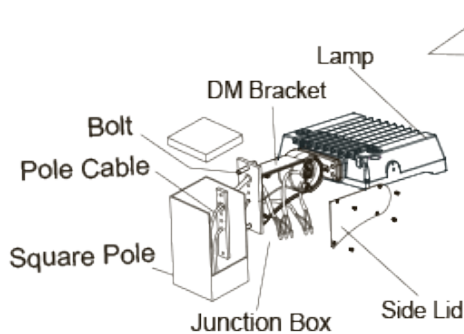

Figure 5.1
Step 1: Fix DM bracket to square pole with bolt, open the side lid of DM bracket, pull the wire into junction box, and connect the wire properly. (Figure 5.1)